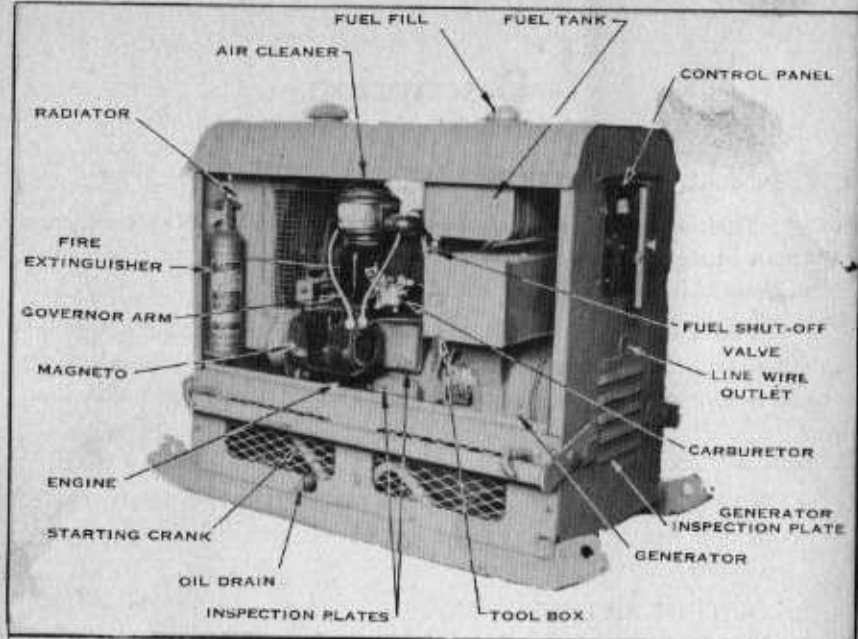

FIG. 2 RIGHT SIDE OF POWER UNIT
- a. **TYPE**—The engine, Figs. 2, 3, and 4, is a two-cylinder, L-Head, water-cooled, gasoline type. It is connected direct to the generator which it drives.
- i. **FUEL SYSTEM**—Gasoline from the fuel tank, Fig. 2, flows by gravity to the carburetor where it is mixed with air in proper proportion before entering the cylinders.
The carburetor, Figs. 2 and 5, mixes fuel and air in proper proportions and its throttle valve controls the flow of the mixture to the engine, thus regulating the engine speed.
- j. **AIR CLEANER**—The air cleaner, Figs. 2 and 6, cleans the air before it enters the carburetor. Air enters near the top, passes down and over the pool of oil at the bottom, then up through the filtering element. Some oil is carried up and deposited on the filtering element. Surplus oil not adhering to the filtering element, runs back into the cup. Foreign particles in the air adhere to the oil surfaces in the element and are washed down into the cup, settling to the bottom. Periodic cleaning and filling with clean oil is necessary.
- k. **ENGINE GOVERNOR**—The four fly-weights of the governor, Figs. 2 and 7, are attached to the face of the camshaft gear and revolve with it. The governor arm is linked to the carburetor
gated by the Wico magneto, Figs. 2 and 8. The spark must occur in each cylinder at the proper time with respect to the upward travel of the piston near the top of its compression stroke. The magneto is driven by gearing which engages with the camshaft gear.